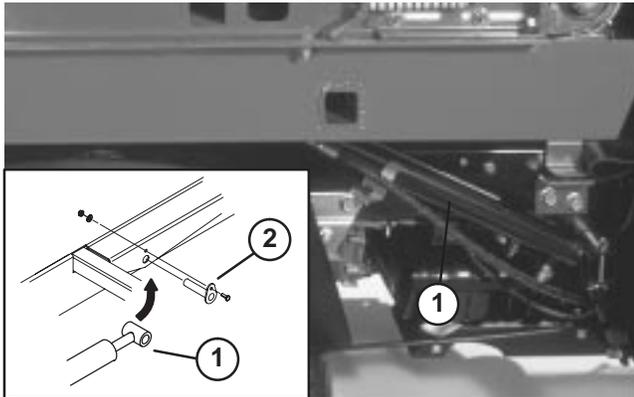

Figure 10
2. Secure each cylinder pin to topdresser base with a 1/4–20 x 3/4” lg. capscrew, flatwasher and nut (Fig. 10).